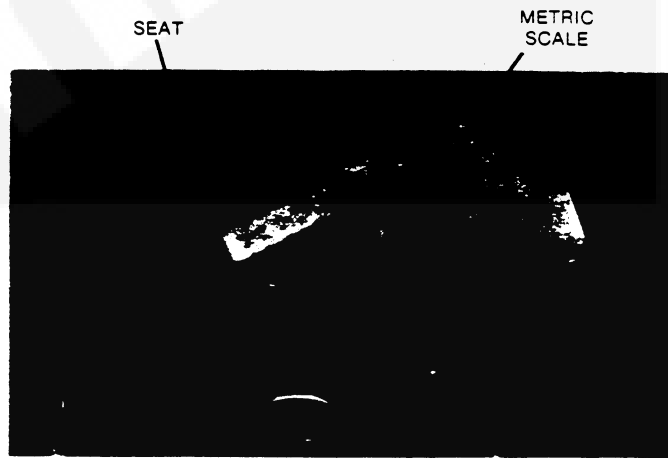

FIGURE 16. MEASURING SEAT WIDTH
12. Recheck seat width (Figure 16).